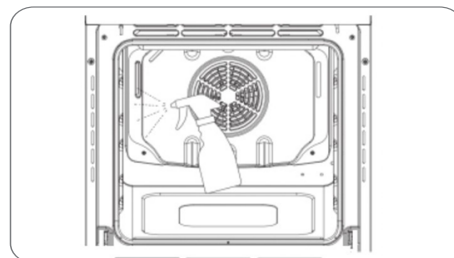

Fig. 4.5
2. Prepare a solution of water (85%), white vinegar (10%), and dish detergent (5%) and spray generously on the door, side walls, and rear wall of the oven cavity (Fig. 4.5).